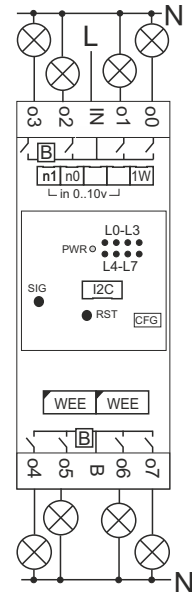

Fig 1. Diagram of connecting the connector
1. Note of the card PIN and Serial Number (SN) device (Both located on the housing of the device)
2. Connect wires: L, o0..o7, In; by Fig.1